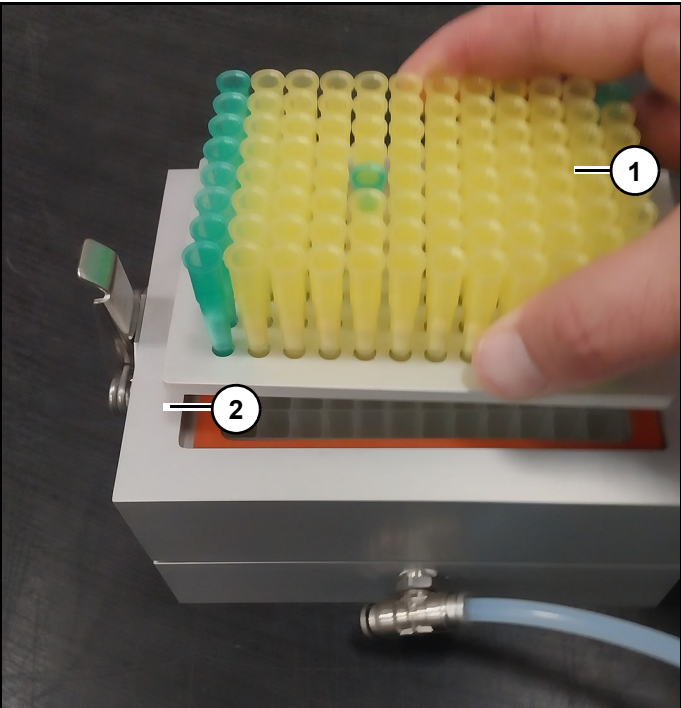

Figure 110
5. Place column chuck (1) into recess of cleavage chuck (2), making sure that column A1 is in upper left hand corner. (Figure 110)